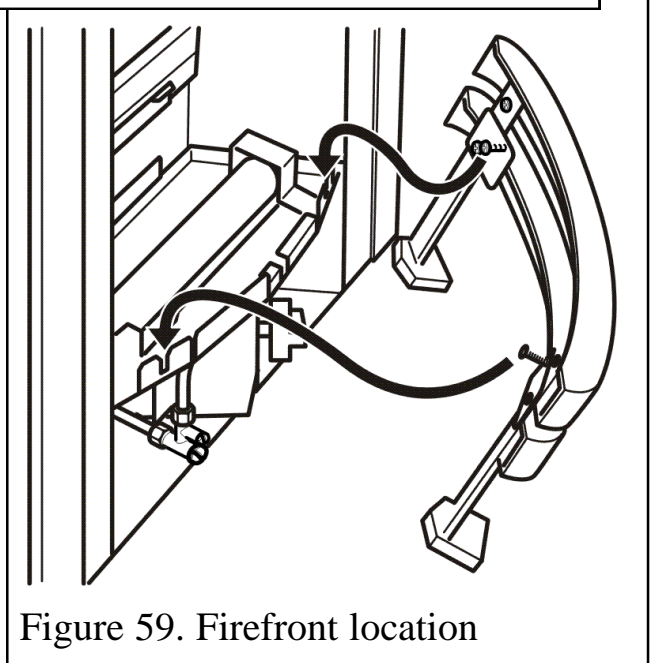

Figure 59. Firefront location
3. Locate the firefront as in figure 59. The screw heads should locate into the slots in the burner tray.